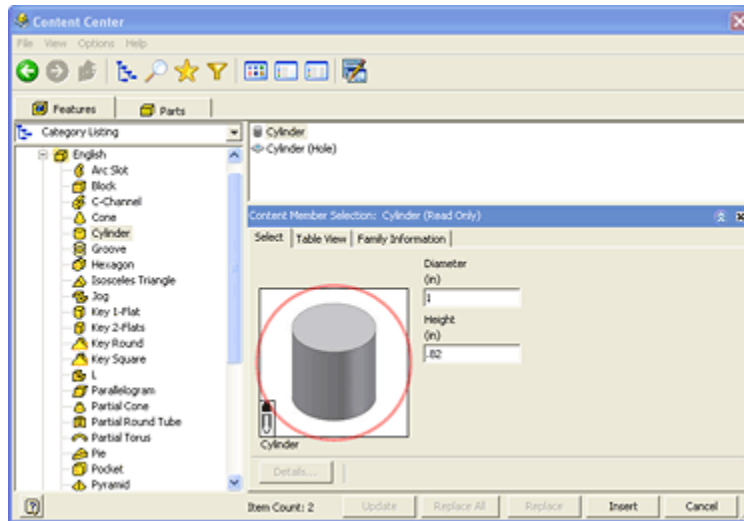

Figure 8. Drag the feature from the preview window into the part model.
4. To insert the feature, select the Insert button or drag the feature from the feature preview window to the Inventor part (figure 8).